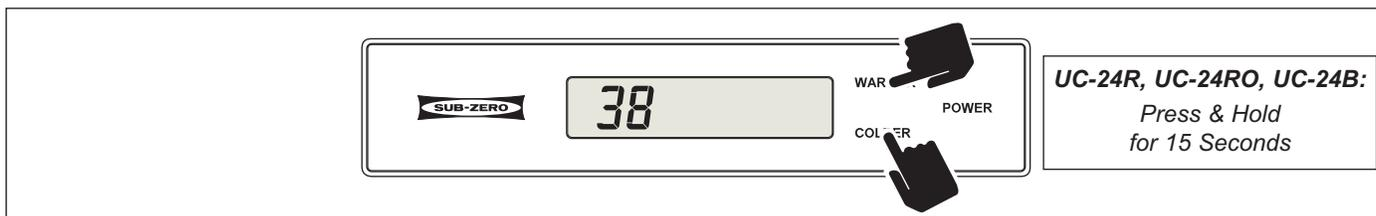

Figure 3-40. (Model UC-24B, UC-24R, UC-24RO) Clear Non-Flashing SERVICE.
- **On a model UC-24B, UC-24R or UC-24RO:** Press the Refrigerator WARMER and COLDER keys for fifteen (15) seconds, and the error codes are cleared. (See Figure 3-40)